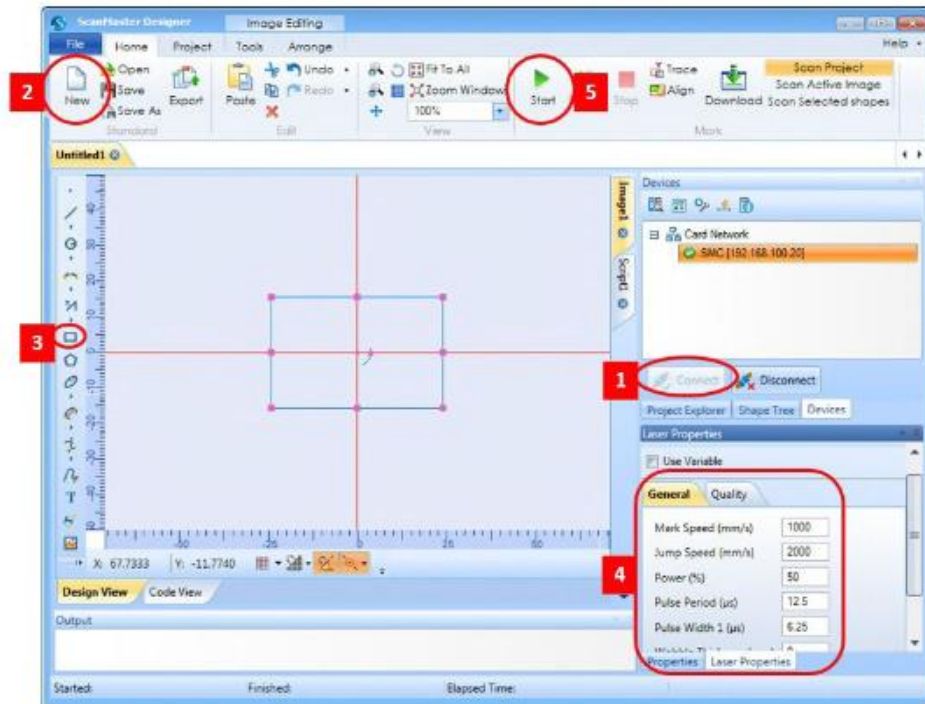

Figure 29: Setting up a simple job in ScanMaster Designer
- Connect the SMC by left clicking "Connect" in the Devices Tab in the GUI (Step 1 Figure 29)
- Start a new project by left clicking "New" (see Step 2 in Figure 29)
- Select the Box shape and draw a box on the Canvas (see Step 3 in Figure 29)
- Set up the shape and laser properties (see Step 4 in Figure 29)
- Left click "Start" (see Step 4 in Figure 29)